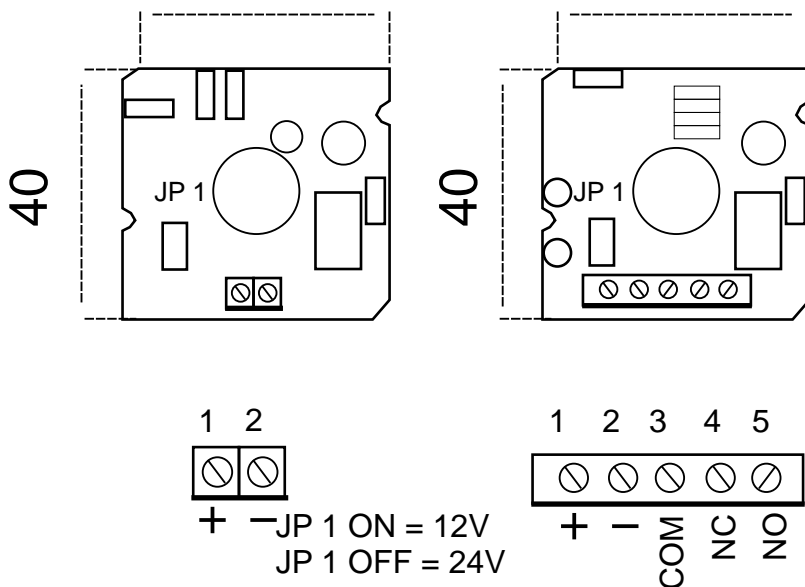

FIG 2
- Feed the cable in through the back of the unit and make connections as show in fig.2.
- Feed the cable in through the back of the unit and make connections as shown in fig.2.